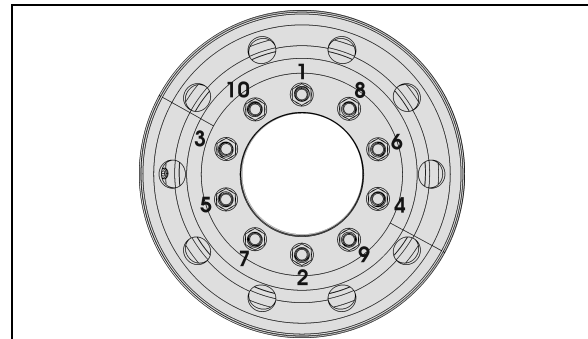

FIGURE 2: TIGHTENING SEQUENCE
It is also important that wheel stud nuts be tightened alternately on opposite sides of the wheel. Refer to Figure 2 for the suggested tightening sequence.
Tighten stud nuts progressively as shown in FIGURE 2. The final tightening should be done with a torque wrench. Tighten stud nuts to 450-500 lbf-ft (610 - 680 Nm) for aluminum as well as steel wheels.
2. Screw in the hex stud nuts (refer to FIGURE 2 for sequence) so that wheel will position itself concentrically with hub. This is important, otherwise wheel may be eccentric with hub and will not run straight. In this initial step, slightly tighten the nuts to correctly position the wheel;
3. Tighten stud nuts progressively as shown in Figure 2. The final tightening should be done with a torque wrench. Tighten stud nuts to 450 - 500 lbf-ft (610 - 680 Nm) for aluminum as well as steel wheel.
With inner and outer wheels installed, tighten the stud nuts progressively as shown in Figure 2. The final tightening should be done with a torque wrench. Tighten stud nuts to 450 - 500 lbf-ft (610 - 680 Nm) for aluminum as well as steel wheel.
Repeat for each of the 10 "hex stud nuts" according to the tightening sequence in FIGURE 2.
Using a calibrated torque wrench, tighten wheel nuts to 450 - 500 lbf-ft (610 - 680 Nm) of torque. Do not use power tools or long bars for tightening. Tighten wheel nuts alternately as shown in Figure 2.